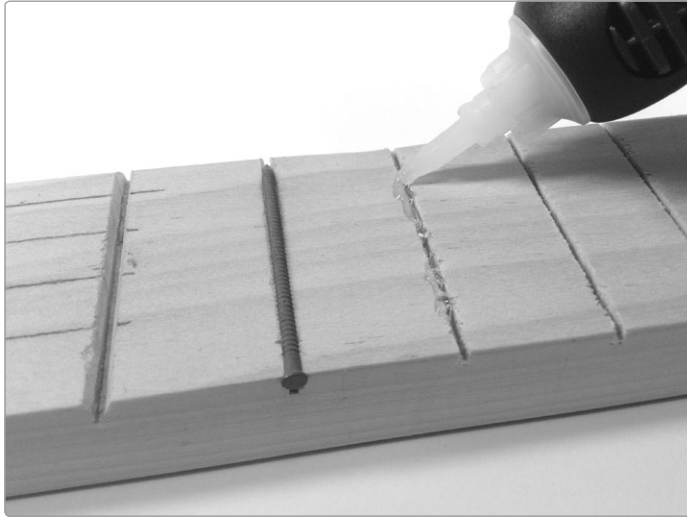

FIGURE 10-8: *Laying glue for the second fret*
Step 9 You're ready to install the frets. We'll just install one at first, to get the feel for the process. Select 12 perfectly straight finishing nails. Make sure they're all the same length and have no deformities. Next, squirt a line of control-gel superglue into the first fret slot, starting about 1/4 inch from the A-side edge of the fingerboard, where the nail head will ultimately rest, and stopping about 1/4 inch shy of the B-side edge (see Figure 10-8).